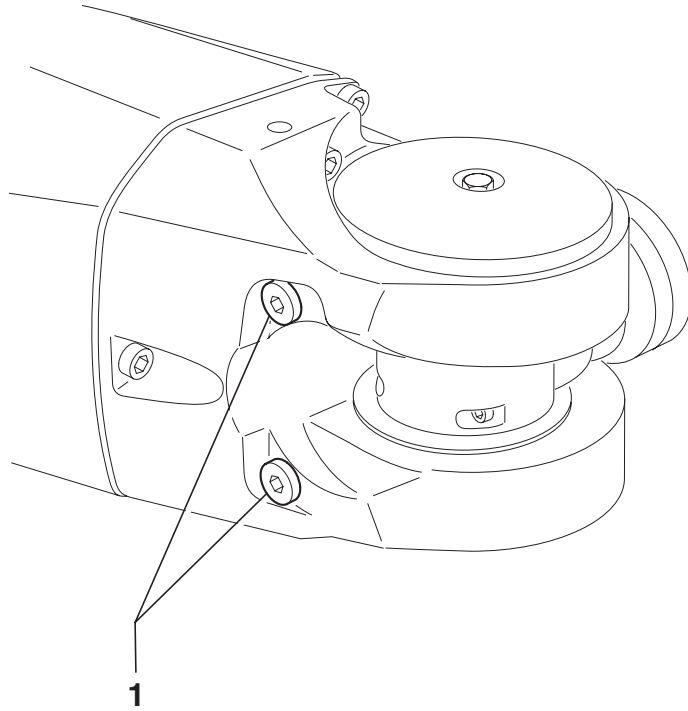

Figure 5.4
5.1.5. TRANSMISSION CASING OF JOINTS 5 AND 6 (figure 5.4)